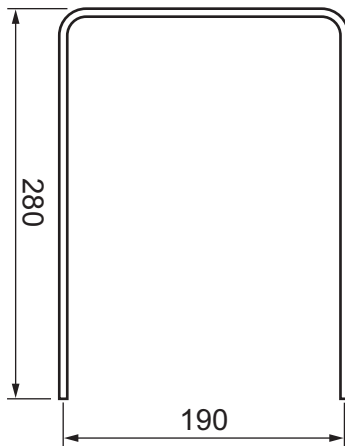

Fig. 13.3
- (e) Fig. 13.3 shows details of the support bent to shape from a length of brass rod. Use sketches and notes to show a design for a bending jig that could be used to produce **ten** identical supports. Give details of all materials and constructions used.